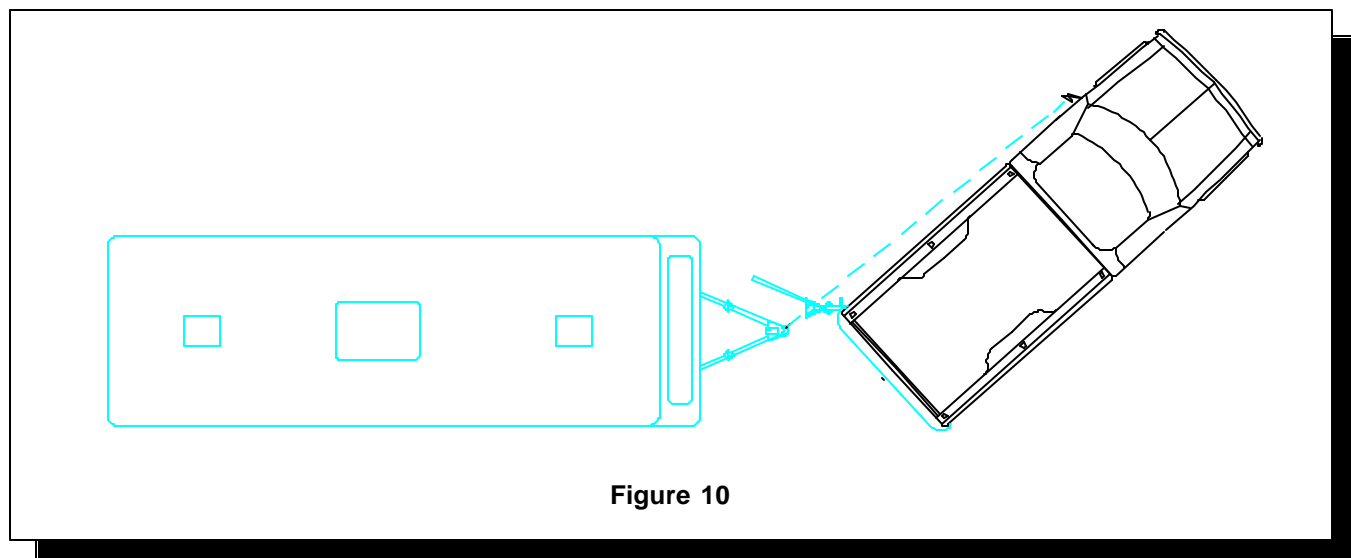

Figure 10
5. Raise trailer tongue until, with aid of hook-up handle (F), the chain link determined in Step 14 of LEVELING INSTRUCTIONS can be engaged in the chain bracket (A) slot.
6. Retract tongue jack completely and turn spring bar set screws (B) clockwise until point contacts chain bracket (A), this should be done equally on each side. Then rotate each set screw (B) up to two full turns on each side. **Note:** the spring bars (E) should not be "bowed" out.
7. Pass trailer safety chain (not provided) under tow bar (R) and connect chains with as little slack as possible. With the PullRite system, slack in safety chains is not necessary.
8. Insert trailer wiring harness in connector mounted on side of tow bar (R) and check all trailer lights and brakes.
*B. PullRite EasyHook-up, refer to **Figure 10**.*
1. With the adjustable shank (I) secured in the tow bar (R) and spring bars (E) inserted in driver's side of ballmount (V), swing tow bar (R) all the way toward driver's side of tow vehicle. **Note:** If the tow bar will not remain on driver's side, place a small wood wedge under the roller to keep tow bar positioned. The wedge should be small enough to allow the roller to crush and repel residue naturally once hook-up is achieved.
3. While watching the ball and spring bar (E) from the driver's seat, back the tow vehicle so the spring bar (E) will be parallel to the trailer's "A" frame when ball is directly below it's coupler.